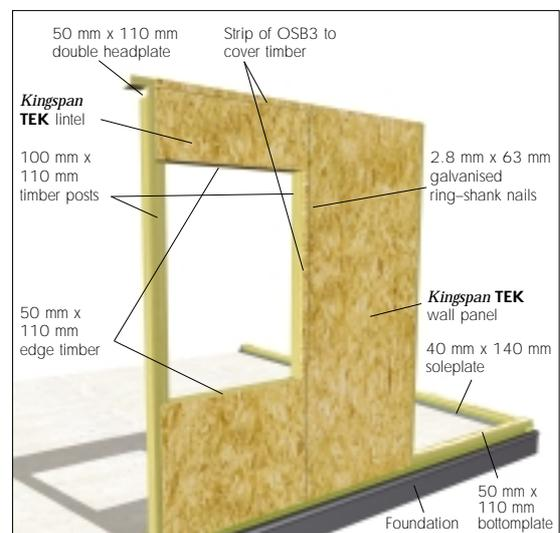

Figure 11a OPENING FOR WINDOW
**Kingspan TEK** Building System wall panels will arrive (unless specified otherwise) from the factory pre-cut and routed for window and door openings. The routed grooves will (unless specified otherwise) be 50 mm deep so that the 50 mm x 110 mm edge timbers can be fully inset around the whole window or door perimeter as illustrated in Figure 11a and b. These timbers need installing as soon as the wall panels have been erected to prevent excessive amounts of water standing in the rout.
Edge timbers should be installed as previously described, above both when the opening is enclosed within one **Kingspan TEK** Building System wall panel and also when it extends into any adjoining wall panels. With all openings for windows and doors, the edge timbers should be cut and installed into the routed channels to match the configuration illustrated in Figure 11a and b. This helps distribute the load carried by the edge timber that forms the timber headplate. All these timbers should be fixed in accordance with the fixing specification in Table 1, section 2.6.